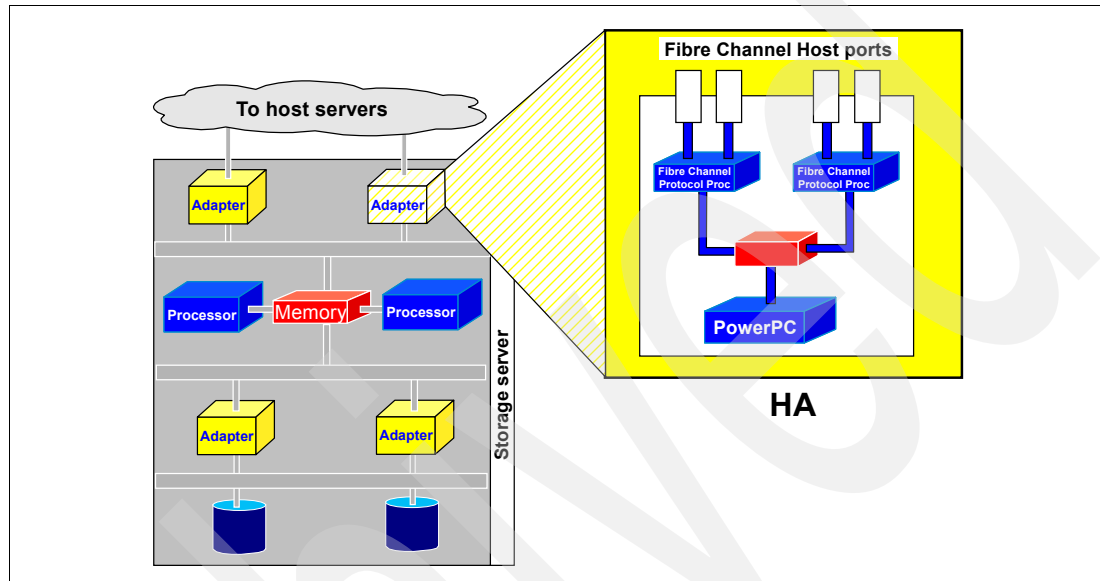

Figure 7-4 Host adapter with four Fibre Channel ports
Before looking into the heart of the DS8000 series, we briefly review the host adapters and their enhancements to address performance. Figure 7-4 shows the host adapters. These adapters are designed to hold four Fibre Channel (FC) ports, which can be configured to support either FCP or FICON.